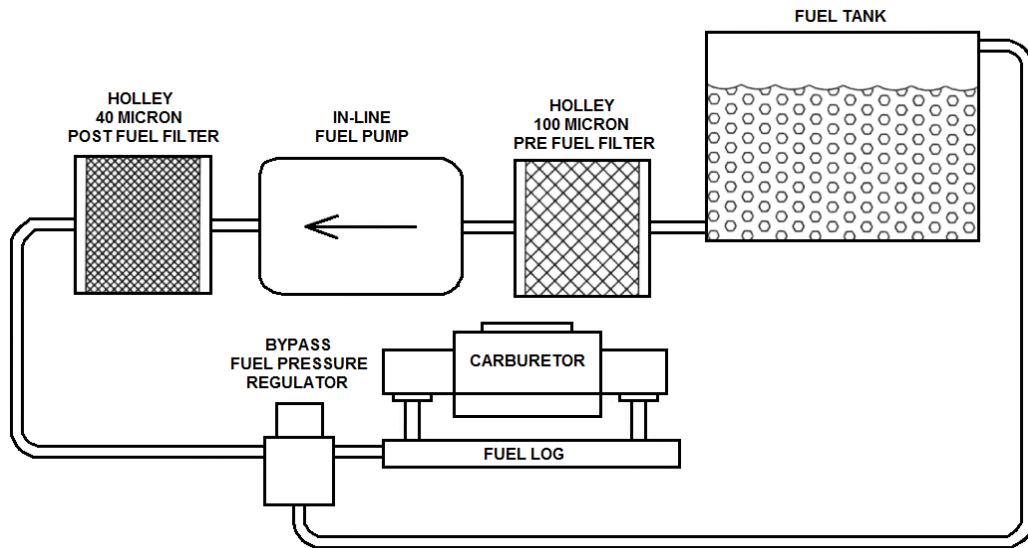

Figure 4a (Carb applications only)
5. Connect the fuel supply line from the tank to the pre-filter and then to the inlet port of the pump. Connect the main fuel feed line to the outlet port of the pump, then to the post filter. See Figures 4a and 4b.